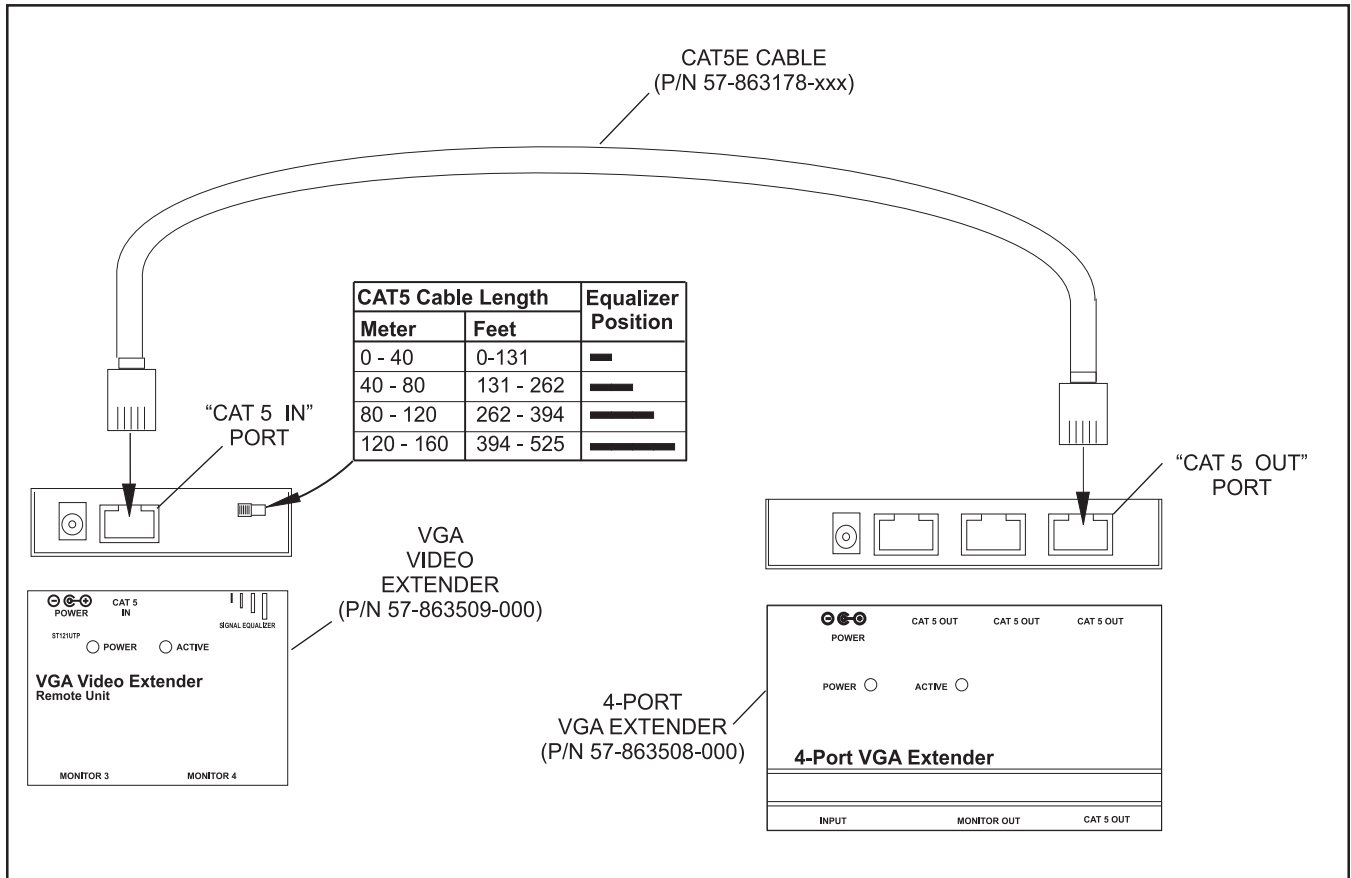

Figure 5. CAT5e Cable
1. Connect one Cat5e cable (P/N 57-863178-xxx) for each LCD display, to the 4-Port VGA Extender (P/N 57-863508-000). Refer to *Figure 5*.